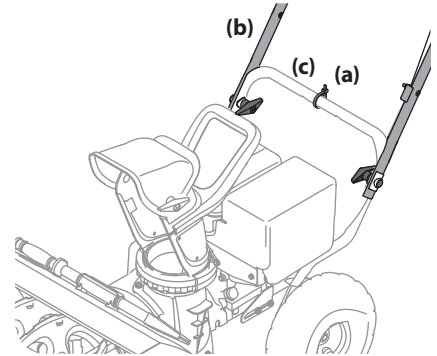

Figure 2-7
- Slide one of the loosely fitted cable ties (a) from the right side of the lower handle (c) up to the cross member of the lower handle (c). Leave the second cable tie in place on the right side of the lower handle (c). See Figure 2-7.
- Lift the upper handle (b) up and position it over the lower handle (c), aligning the holes where the wing knobs were removed. See Figure 2-7.